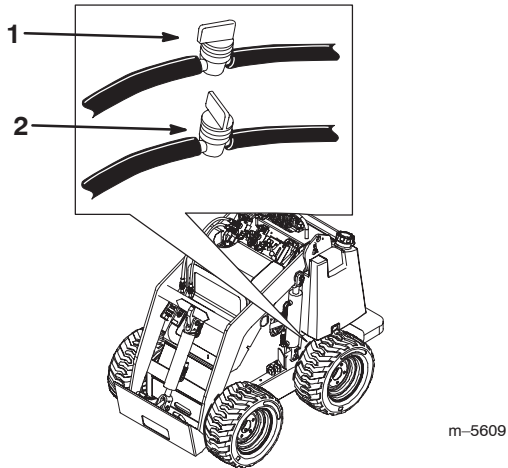

Figure 30
3. Shut off the fuel valve on the bottom of the fuel tank (Fig. 30).
- Open the fuel valve on the bottom of the fuel tank (Fig. 30).
- Shut off the fuel valve in the hose near the bottom of the fuel tank as illustrated in Figure 30.
- Open the fuel valve in the hose near the bottom of the fuel tank as illustrated in Figure 30.